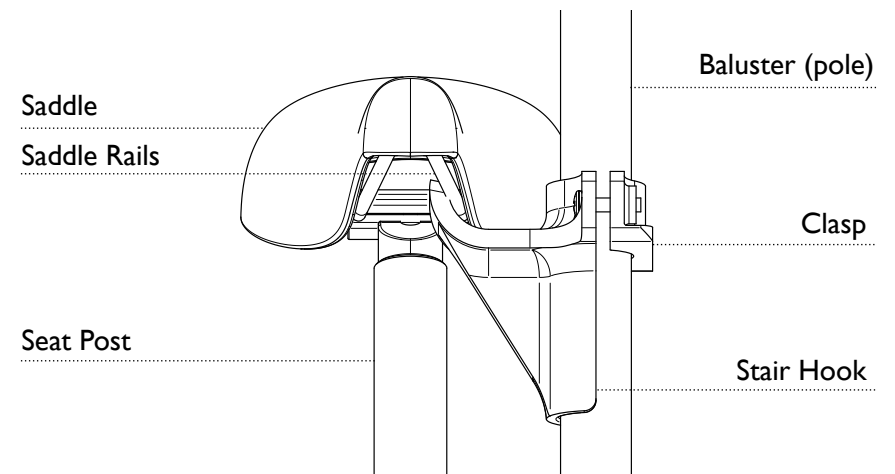

Figure 2 - Usage
1. Suspend your bicycle by resting one or both of its saddle rails onto Stair Hook (Figure 2). Only utilise the portion of the saddle rails which are ahead of the seat post.
2. Ensure your the portion of your bicycle's saddle rails ahead of the seat post are exposed for engagement with the hook (Figure 2). If required, slide saddle forward to further expose the saddle rails.